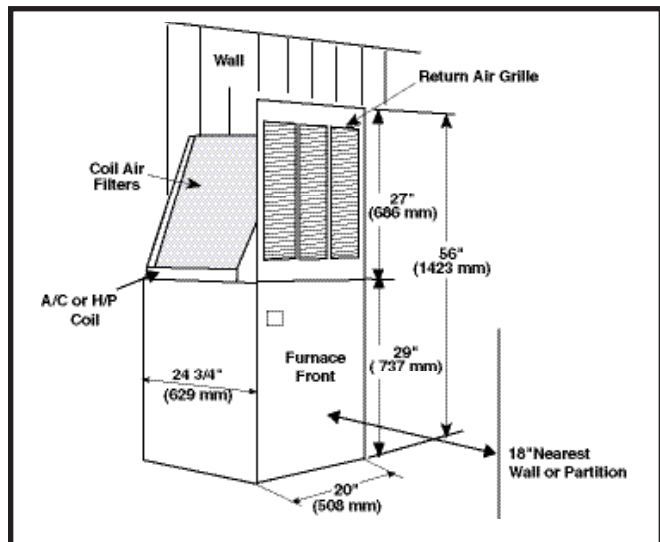

Figure 12. Alcove Installation
3. Install the mounting plate under the back side of the duct connector. See Figure 12. **NOTE:** Align the screw holes in both components.